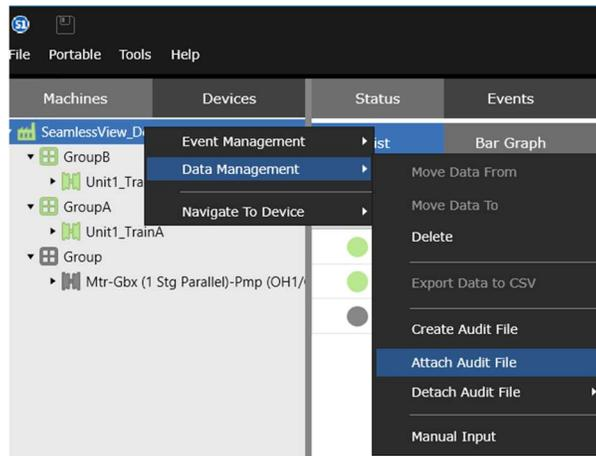

Figure 3-14: Attach Audit File
3. Choose Data Management > Attach Audit File (Figure 3-14)